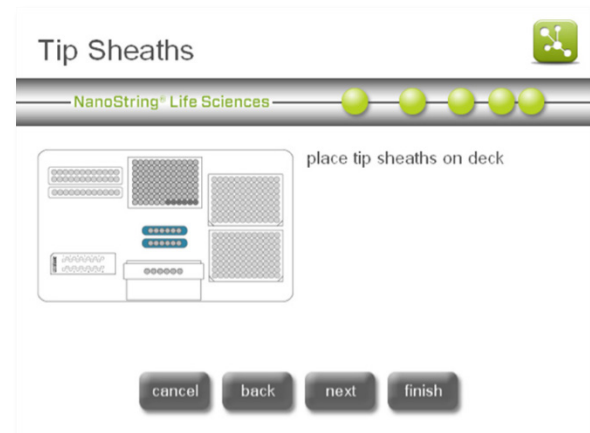

Figure 23: The 'Tip Sheaths' screen.
- The 'Tip Sheaths' screen will appear (**Figure 23**).